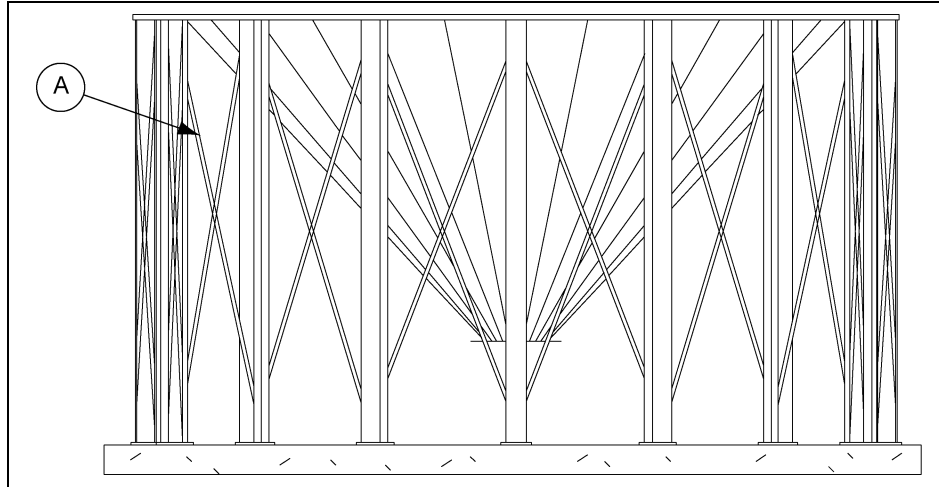
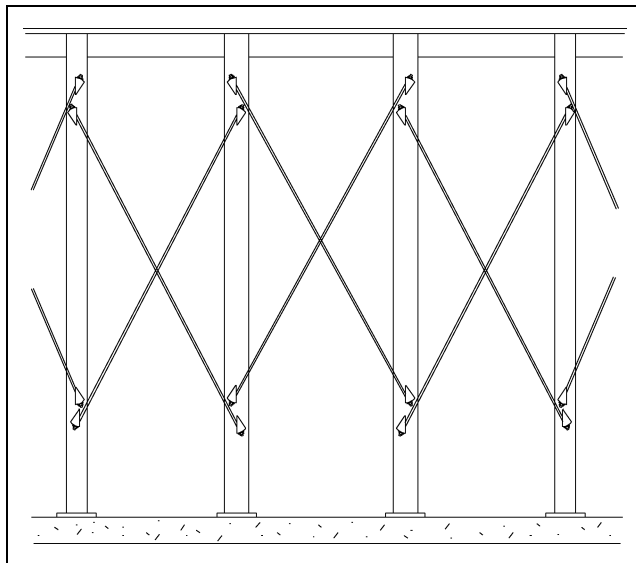
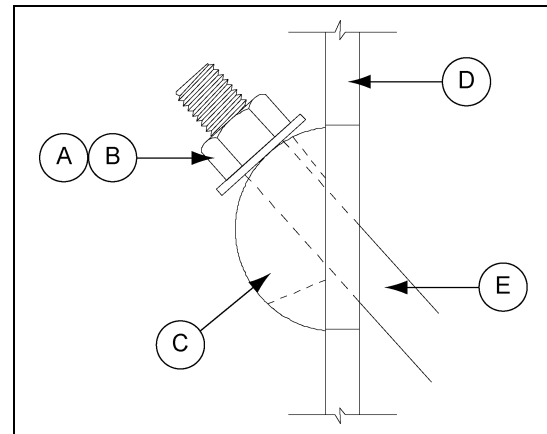

Figure 5J Completed Hopper Assembly
Figure 5K Detail C - "X" Bracing Rods
Figure 5L Detail D
Install "X" bracing rods (A) as shown in Figure 5J, Figure 5K and Figure 5L.